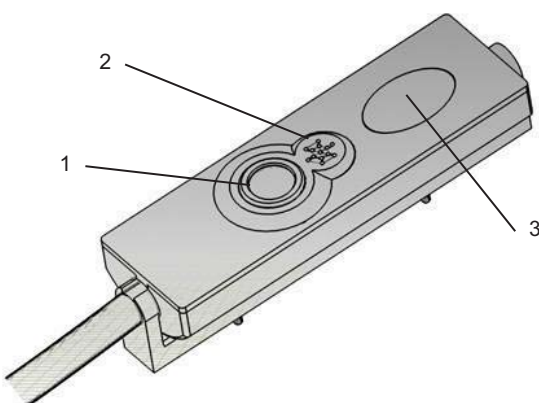

Figure 28: Anti-collision device display
- the display (ref. 3, Figure 28) lights up green;
If the slowing/stopping function has been installed but there is a fault, the vehicle stops when the driver engages reverse. To restart the vehicle, press and hold down the red release button (ref. 1, Figure 28) on the display and complete the manoeuvre. If this happens, contact the Fitter immediately because the system is malfunctioning and does not detect the sensor.